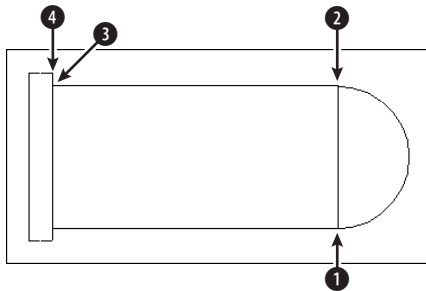

Figure 4-24: Drawing a steam boiler with an endpoint running object snap
7. Start the ARC command. At the Specify start point of arc or [Center]: prompt, pick the endpoint at **1**, shown in Figure 4-24. (Look for the marker and AutoSnap tooltip.)
8. At the Specify second point of arc or [Center/End]: prompt, right-click and choose End. Pick the endpoint at ②, shown in Figure 4-24.
10. Start the LINE command and at the Specify first point: prompt, pick the endpoint at ② in Figure 4-24.
13. Start the LINE command. At the Specify first point: prompt, place the cursor 0.25 units above ③ in Figure 4-24 (at 2,5.25). You may need to turn off the running OSNAP temporarily. Pick point 2,5.25.
Specify next point or [Close/Undo]: *Pick the endpoint at ④ in Figure 4-24.*